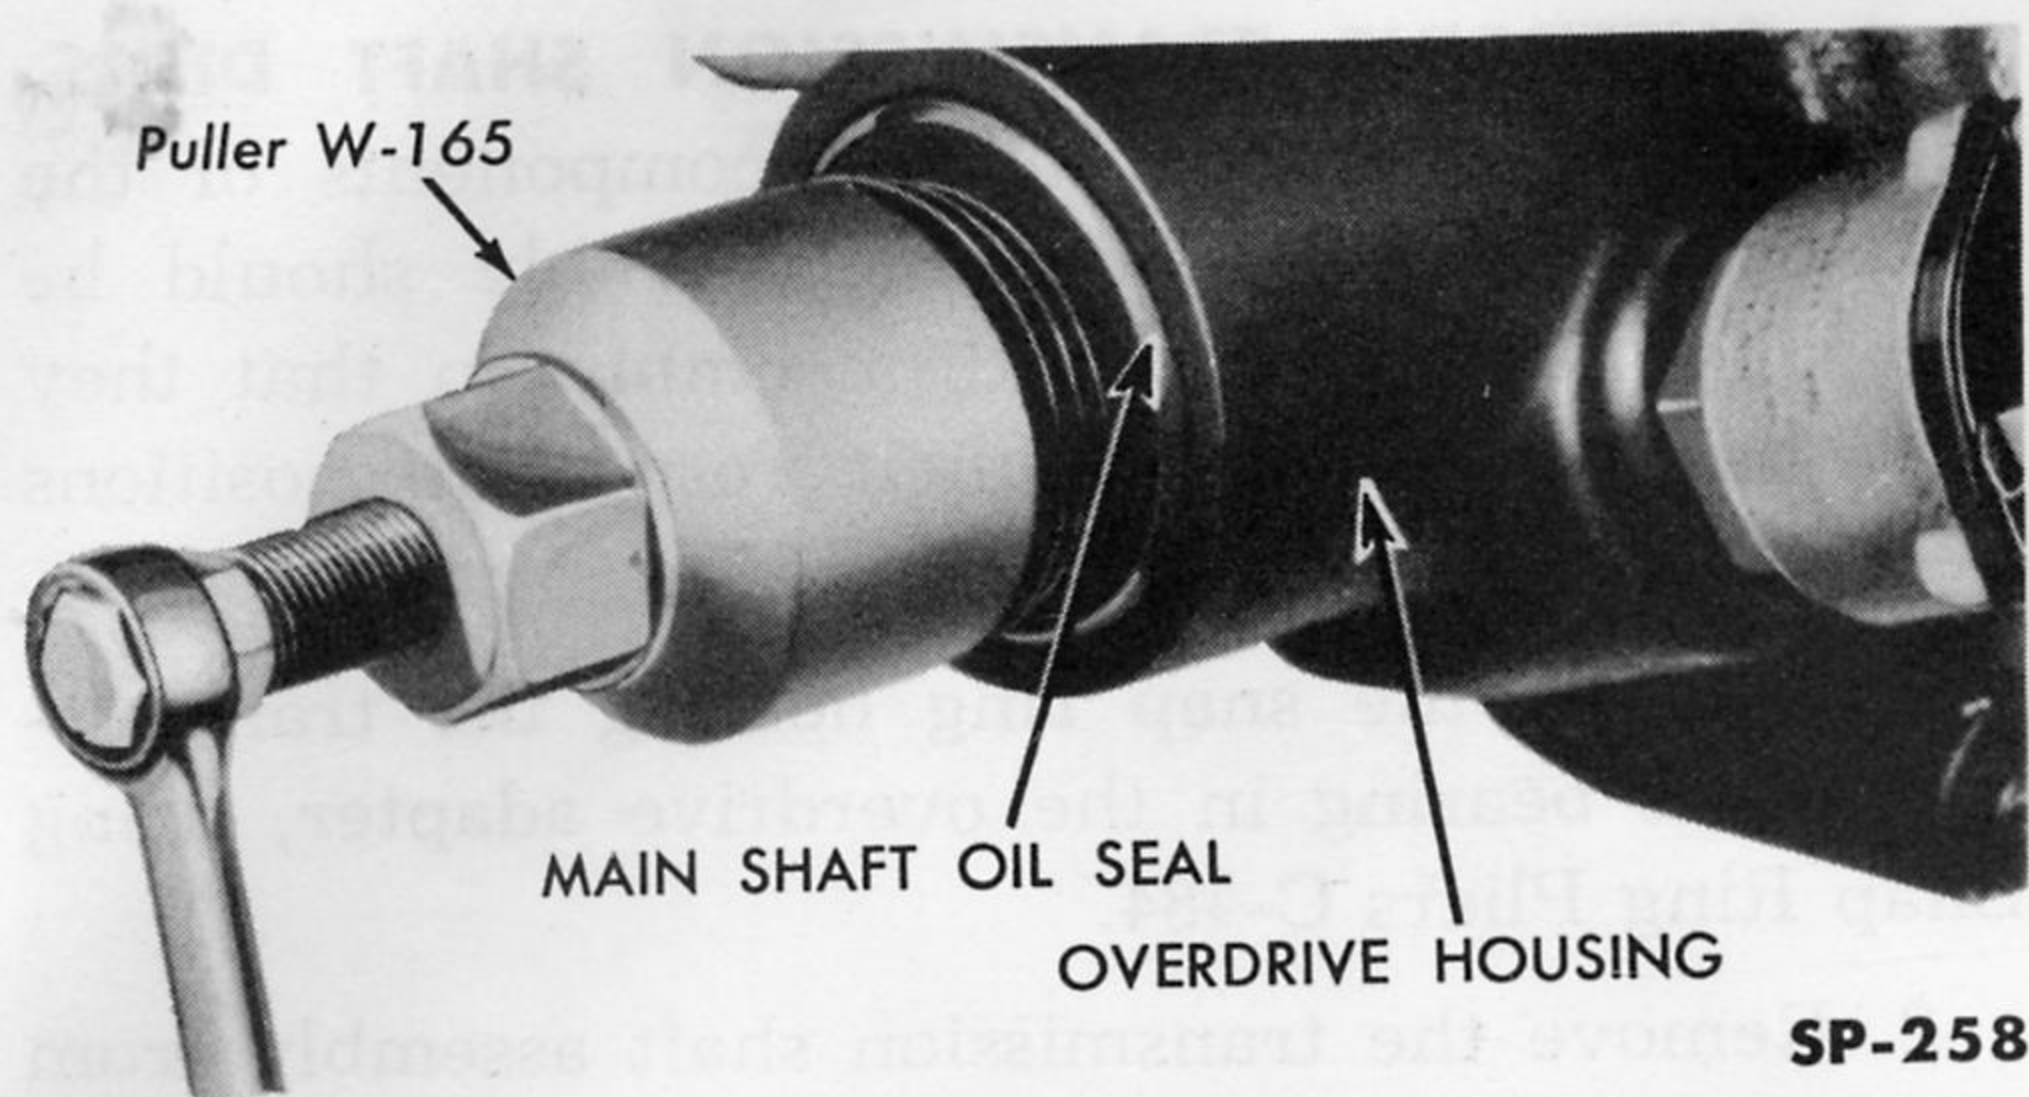

Fig. 213—Removing Mainshaft Oil Seal
7. Install Puller W-165 by turning it into the mainshaft oil seal and turn the puller center screw against the mainshaft to remove the oil seal (Fig. 213).